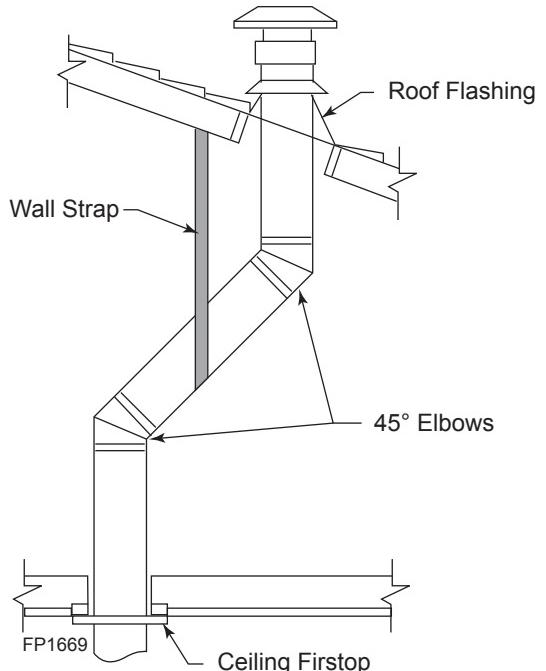

Figure 20 -
- Determine the route your vertical venting will take. If ceiling joist, roof rafters or other framing will obstruct the venting system, consider an offset. Refer to Figure 20 to avoid cutting load bearing members.